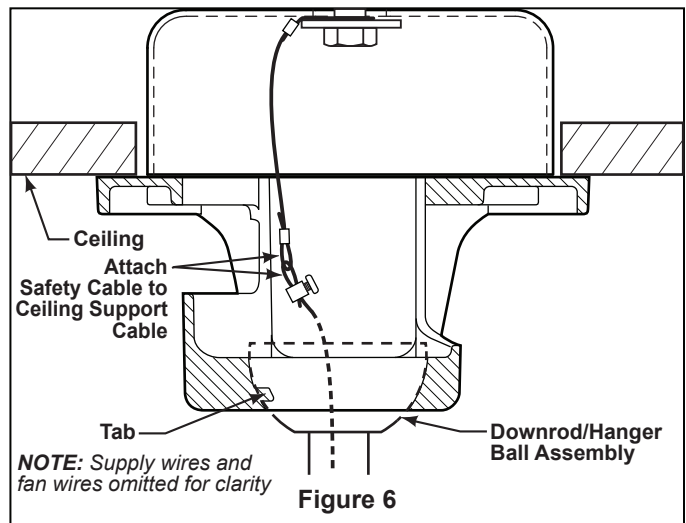

Figure 6
4. Carefully lift the fan and seat the downrod/hanger ball assembly on the hanger bracket that was just attached to the ceiling joist. Be sure the groove in the ball is lined up with tab on the hanger bracket. (Figure 6)
5. Attach the safety cable to ceiling support cable. Slide cable clamp onto safety cable (from fan). Place the end of cable through the loop of ceiling support cable. Pull as much cable through loop as possible. Feed end of cable into clamp hole and firmly tighten screw (Figure 6). Cut off excess safety cable.